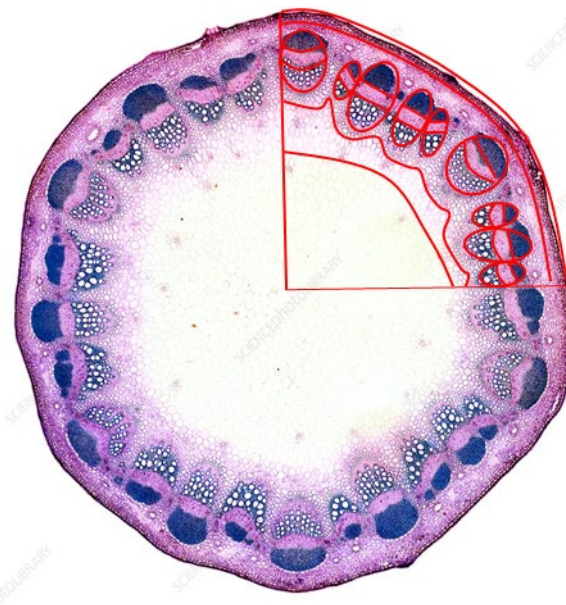

Fig 1.1
- 1 Fig 1.1 shows a microscopic image of a stained cross section through a stem of a terrestrial plant.
Observe the different tissues in the region of Fig. 1.1 shown by the shaded area in Fig. 1.2 below.